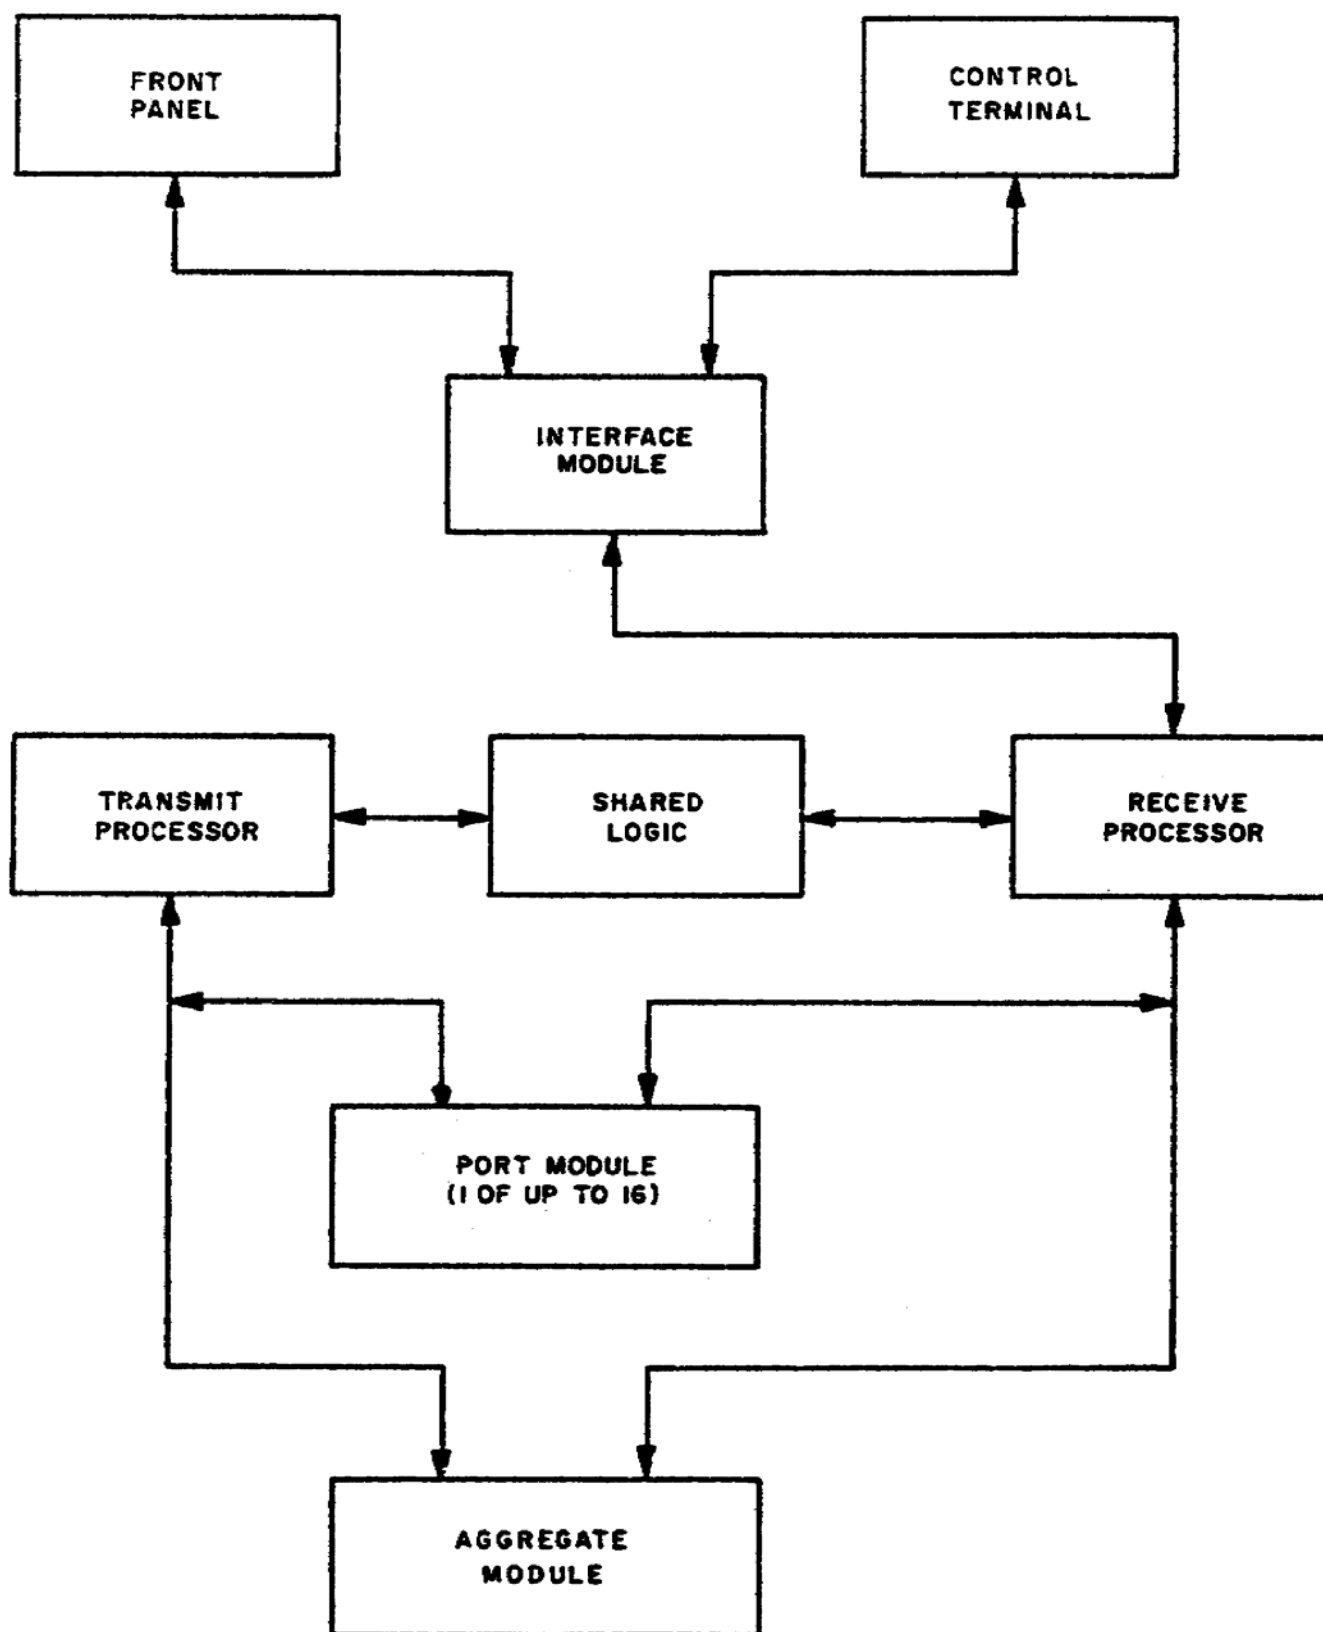

Figure 8. Control Diagram.
Control of the AN/FCC-100(V) is performed by the transmit processor and receive processor modules. The shared logic module contains the memory circuits which retain system operating parameter values (see figure 8). The transmit and receive processors automatically call on the values in order to process signals. The processor modules command the port and port carrier modules to receive data from, and send data to, the user's DTE. These modules also command the aggregate and aggregate carrier modules to send data to, and receive data from, the user's DCE. Operator command inputs can be entered from either the front panel or a (user-supplied) ASCII control terminal. These commands are placed in temporary memory located on the interface module. A store command transfers the information from the temporary memory to permanent off-line memory on the shared logic card.